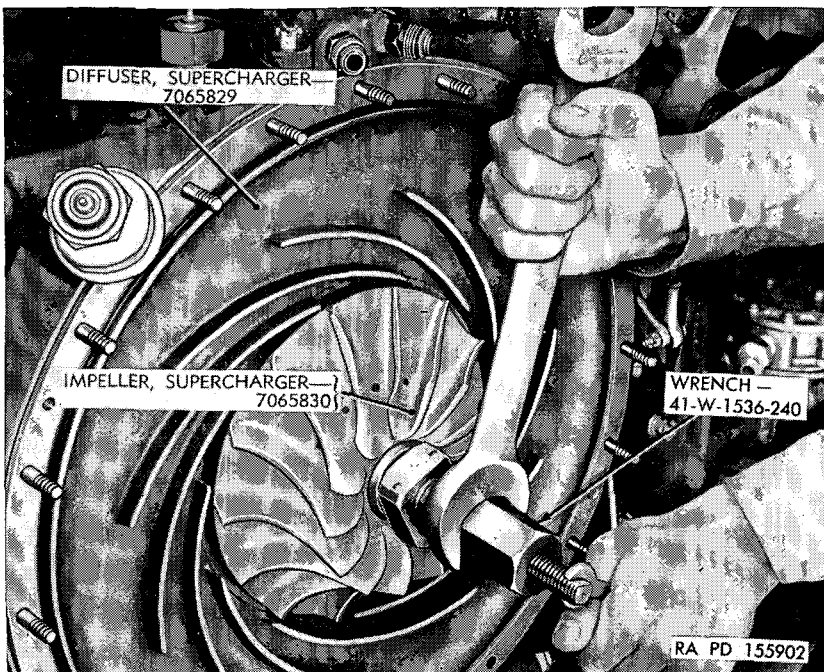

Figure 32. Pulling the supercharger impeller.
- (3) Remove the supercharger impeller (L, fig. 49) from the shaft of the impeller driven gear (HH, fig. 38), using wrench 41-W-1536-240 (fig. 32). Remove the impeller shims (M, fig. 49) and the impeller spacer (A, fig. 38).